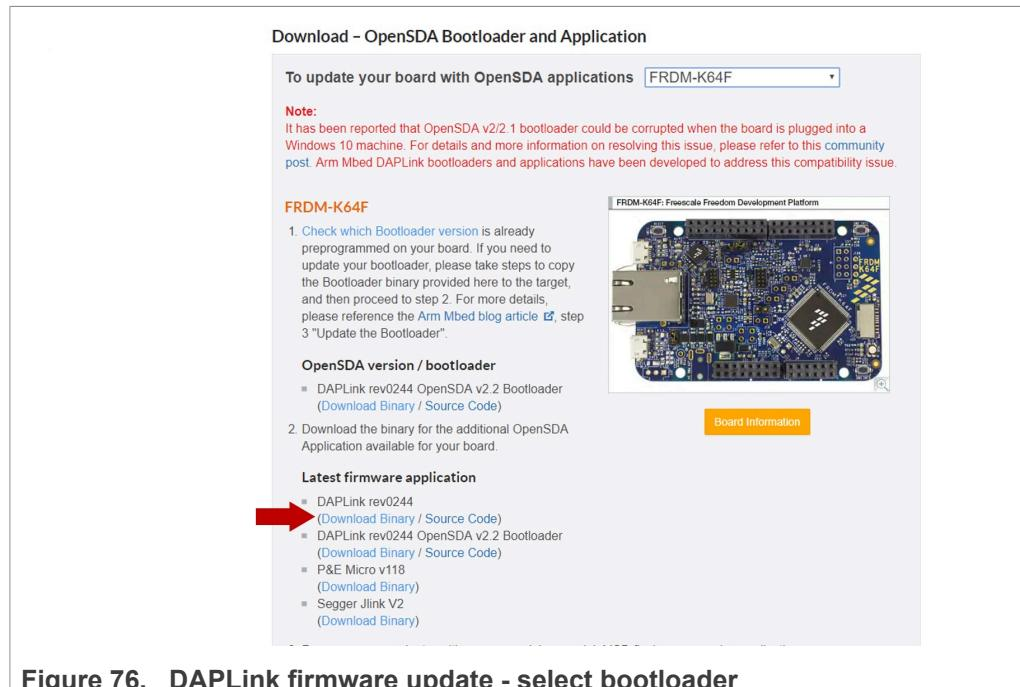

Figure 76. DAPLink firmware update - select bootloader
3. Download the latest DAPLink firmware version as shown in Figure 76:
**Note:** In case the device does not show up in your Device Manager, please download the latest bootloader version, as shown in Figure 76, or check / exchange the USB cables used.